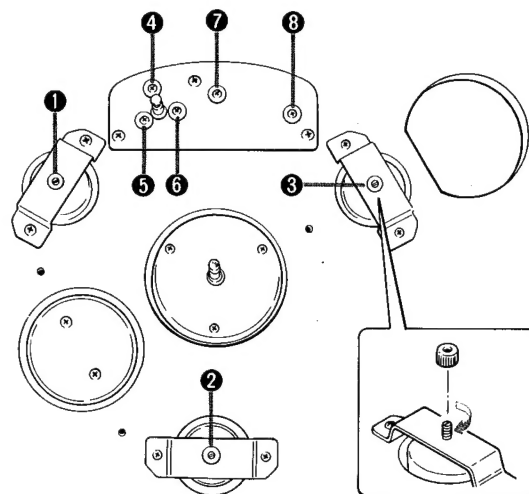

Fig. 4
3. Remove nuts 1 to 3 in Fig. 4 and then remove the chassis assembly by turning the central screws of nuts clockwise.
2. Remove screws 4 to 6 in Fig. 4 and then remove the motor.
2. Remove screws 7 and 8 in Fig. 4 and then remove the power transformer.